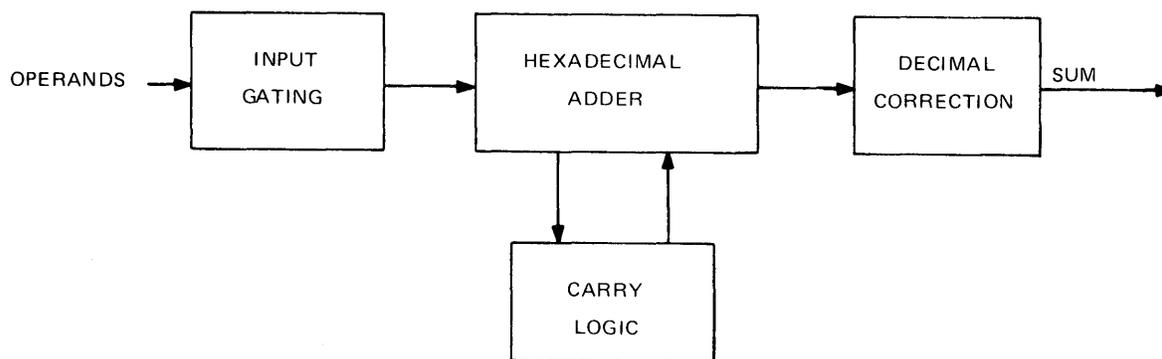

Figure 7. Fixed Length Adder
**ADDER.** The adder used in the fixed length arithmetic unit provides the capability to add or subtract two groups of five digits each and provides a decimally corrected result. As shown in figure 7, the adder consists of four major areas: input gating, hexadecimal adder, carry logic, and decimal correction logic.